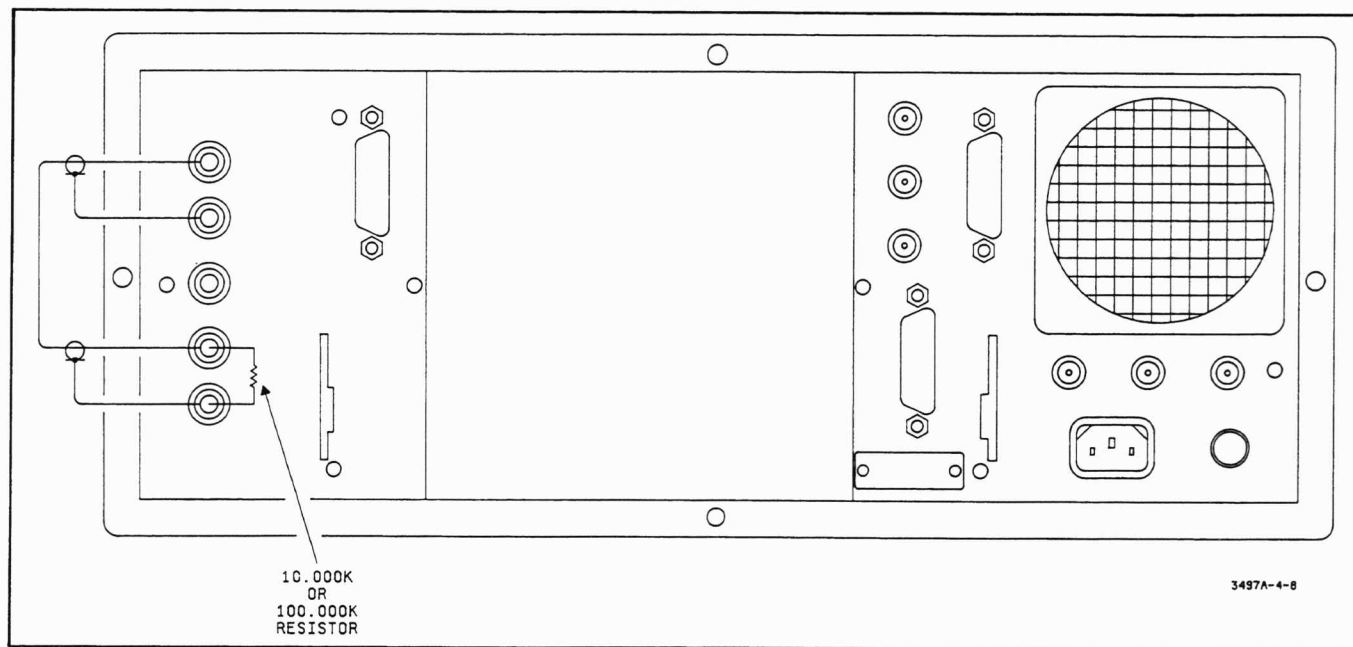

Figure 4-8. DC Current Source Test Connection
b. (Step #2). Connect the 10K ohm Standard Resistor to the Current Source Output, as shown in Figure 4-8. Also, connect the output to the DC Voltmeter, as shown in the figure.